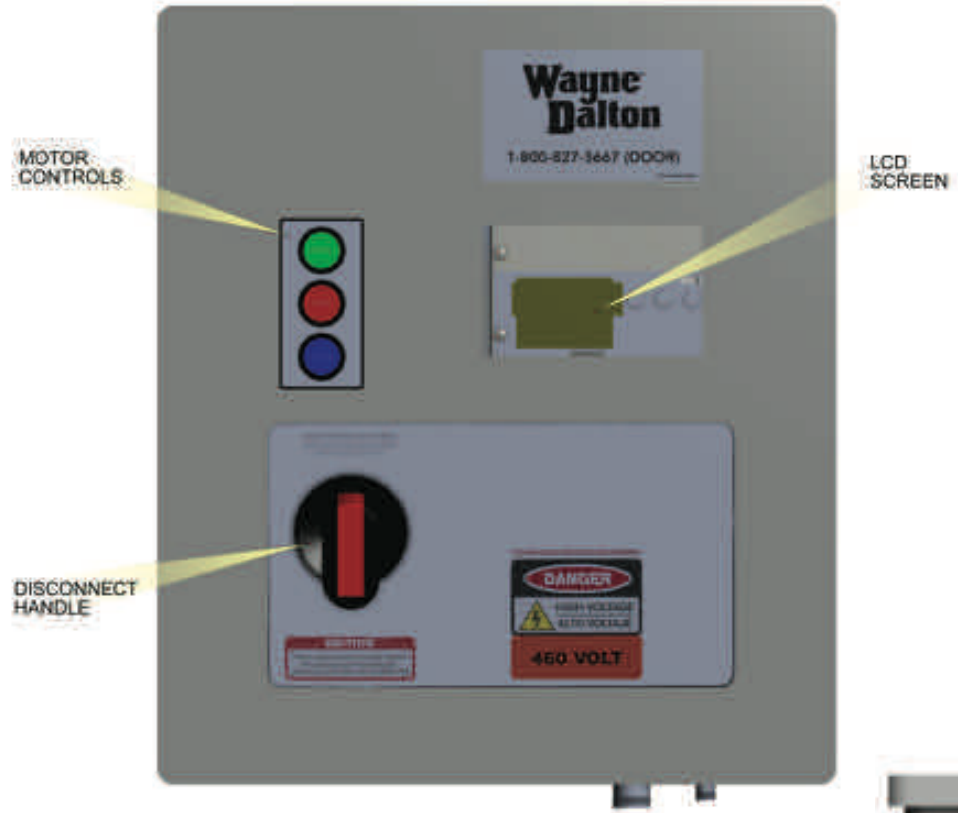

Fig 16 Control Panel Front Cover
1. MAIN COMPONENT OVERVIEW, FIG 16 AND 17